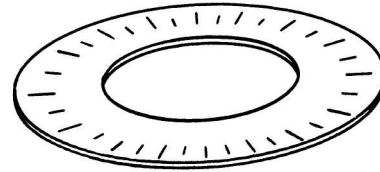

Fig. 2-11 The circle on an optical level. (David White Instruments.)
3. *Circle* (Fig. 2-11). The perfectly flat plate on which the telescope rests is called the *circle*. It is marked in degrees and can be rotated in any horizontal direction. With the use of an index pointer, any horizontal angle can be measured quickly. Most instruments have a *vernier scale*. An additional scale is subdivided. It divides degrees into minutes. There are 60 minutes in each degree. There are 360 degrees in a circle.